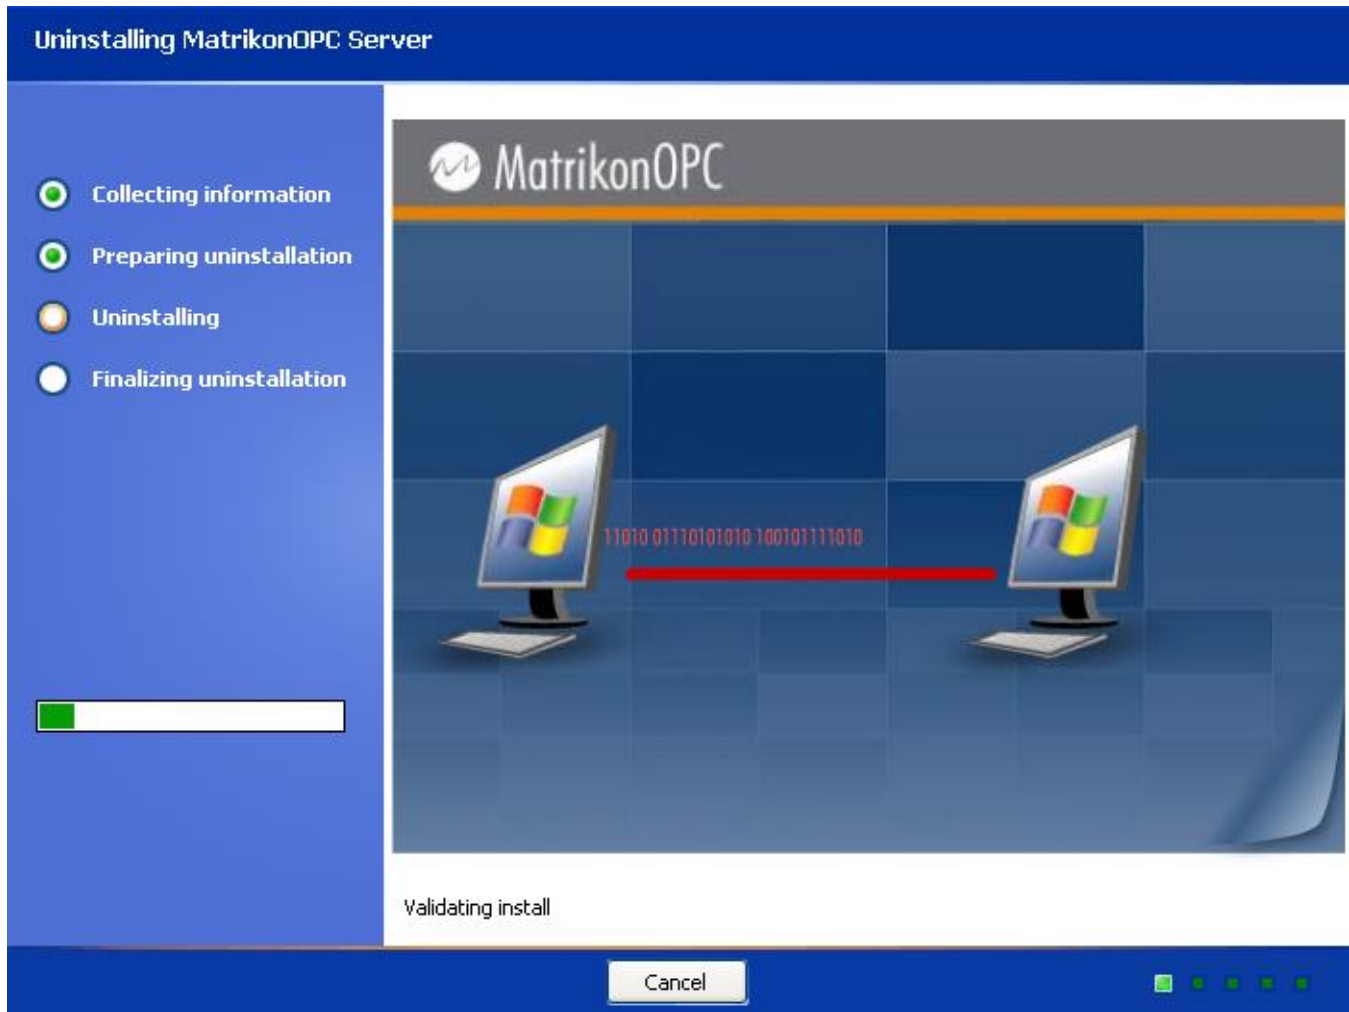

Figure 102 - Uninstalling MatrikonOPC Server for Modbus Screen
10. The **Uninstalling MatrikonOPC Server for Modbus** screen (Figure 102) appears and the un-install takes place.